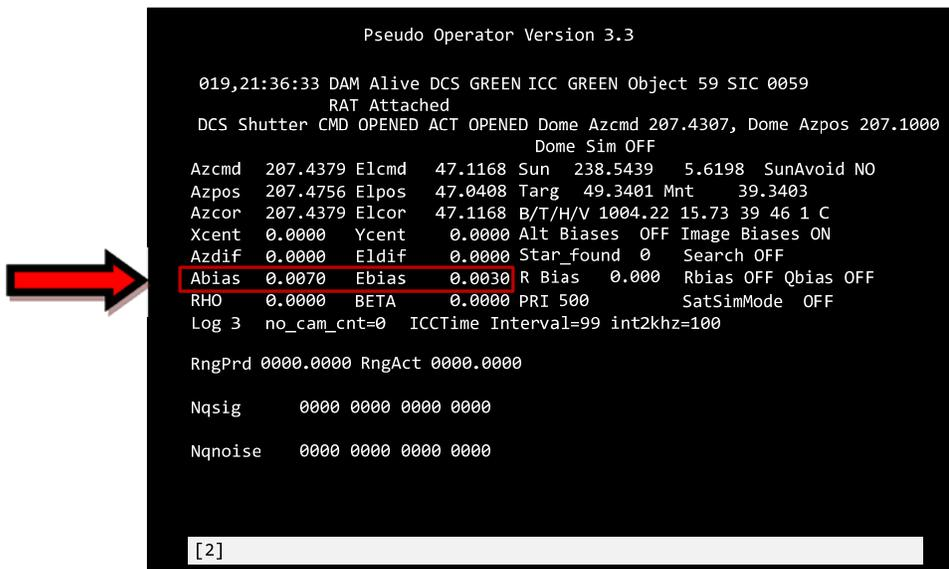

Figure 5-11: Azimuth Bias (Abias) and Elevation Bias (Ebias) as shown on POP
8. **Verify that the Azimuth and Elevation Biases are within range** – After the software captures the image of the star and calculates the biases, check that the bias values are nominally 1 millidegree or less for each star observed during the verification procedure (Figure 5-11). If not, a second automated Star Calibration will need to be performed and the subsequent results verified.